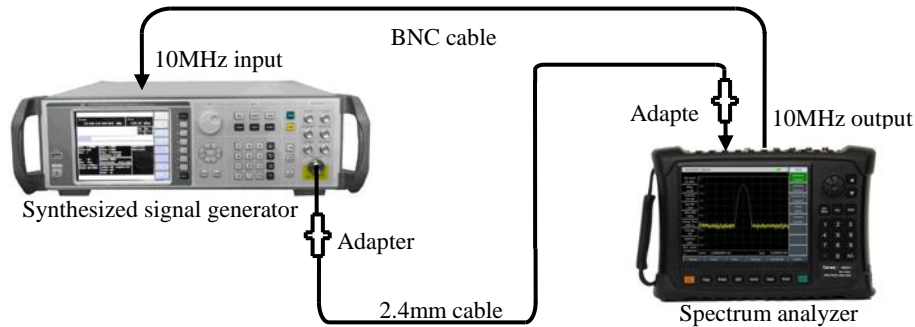

Fig. 12-7 Schematic Diagram of Sideband Noise Test
- 1) Connect the test instrument as shown in Fig. 12-7. The spectrum analyzer will provide the frequency reference for the synthesized signal generator.